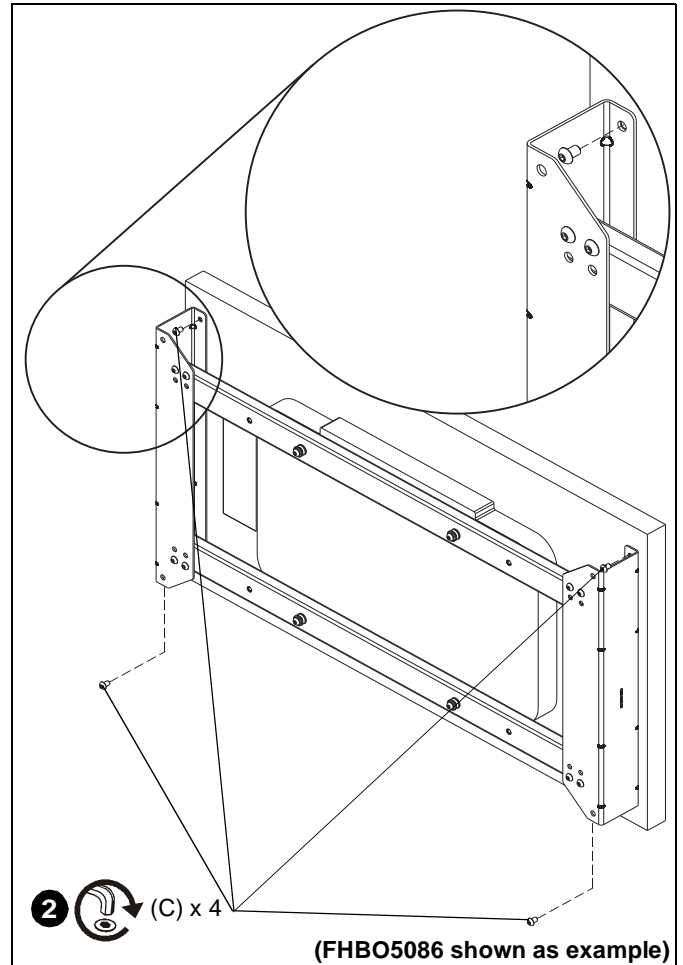

Figure 2
2. Attach assembled FHB bracket to back of display using four M8x12mm button head cap screws (C) and the M8 hex key (D). (See Figure 2)